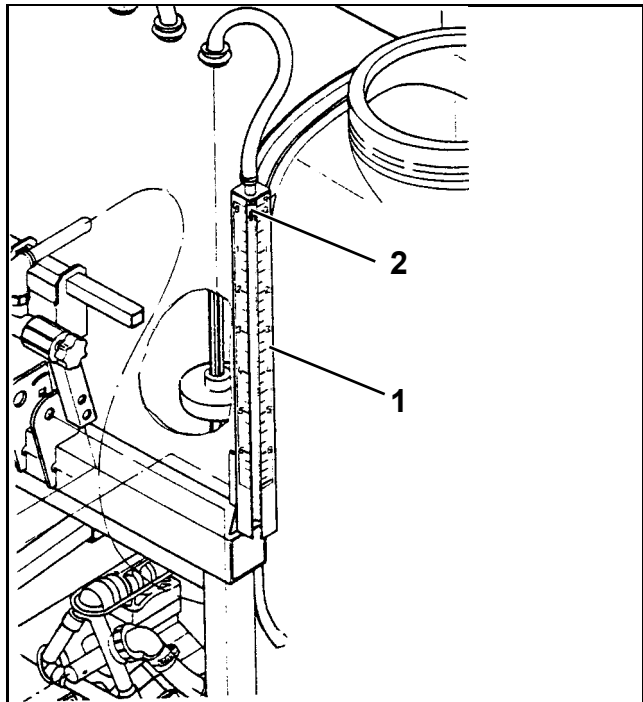

Fig. 30
- Read the tank volume off the pointer position on the scale (Fig. 30/1) of the tank level indicator (Fig. 30/2).